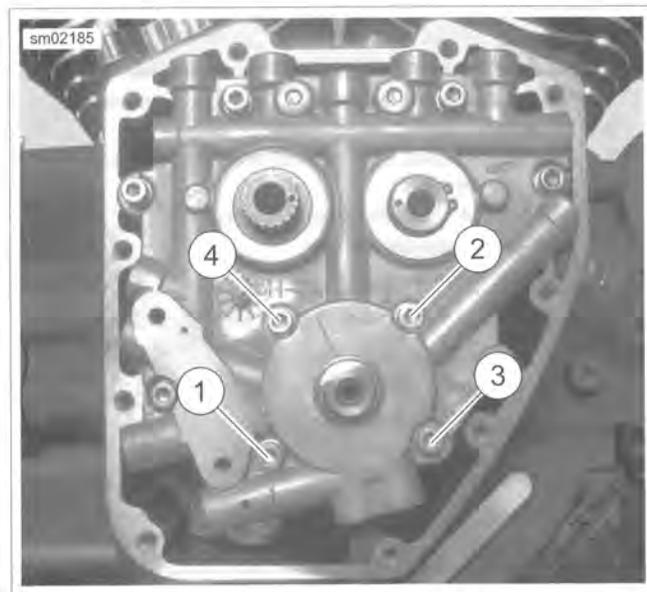

Figure 3-109. Oil Pump Torque Sequence
- 6. See Figure 3-109. Secure oil pump.